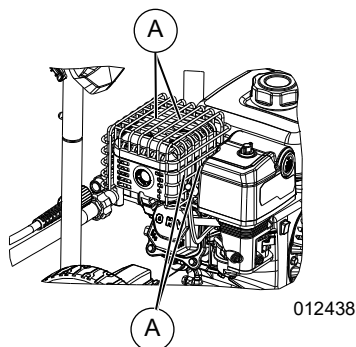
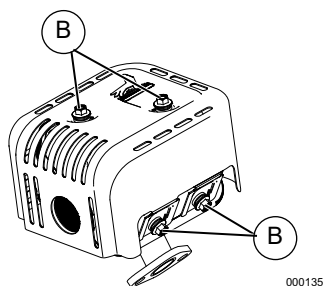

Figure 4-9. Spark Arrestor Fasteners
Figure 4-10. Heat Shield Fasteners
1. See Figure 4-9 and Figure 4-10. Loosen fasteners and remove spark muffler cage (A) and heat shield (B).